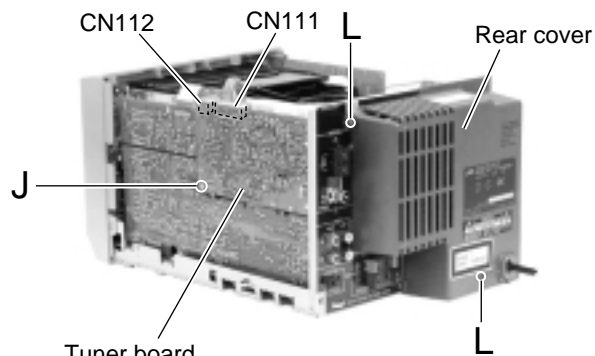

Fig.15
■ Removing the tuner board (See Fig.15 and 16)
■ Remove the rear cover / the rear panel (See Fig.15 and 17)